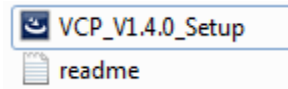

Figure 3.2. Install the VCP Driver
1. Plug in the mini-USB cable (item 3 in Figure 1.4) and power on the SL-881. Open the SL881\_AVG\_driver\_installation folder from your test computer. Click VCP\_V1.4.0\_Setup to install VCP driver (as shown in Figure 3.2)
2. After the VCP driver installation is completed, open readme.txt (Figure 3.2). Follow the steps in the “How to use” section in readme.txt to install the dpinst driver.